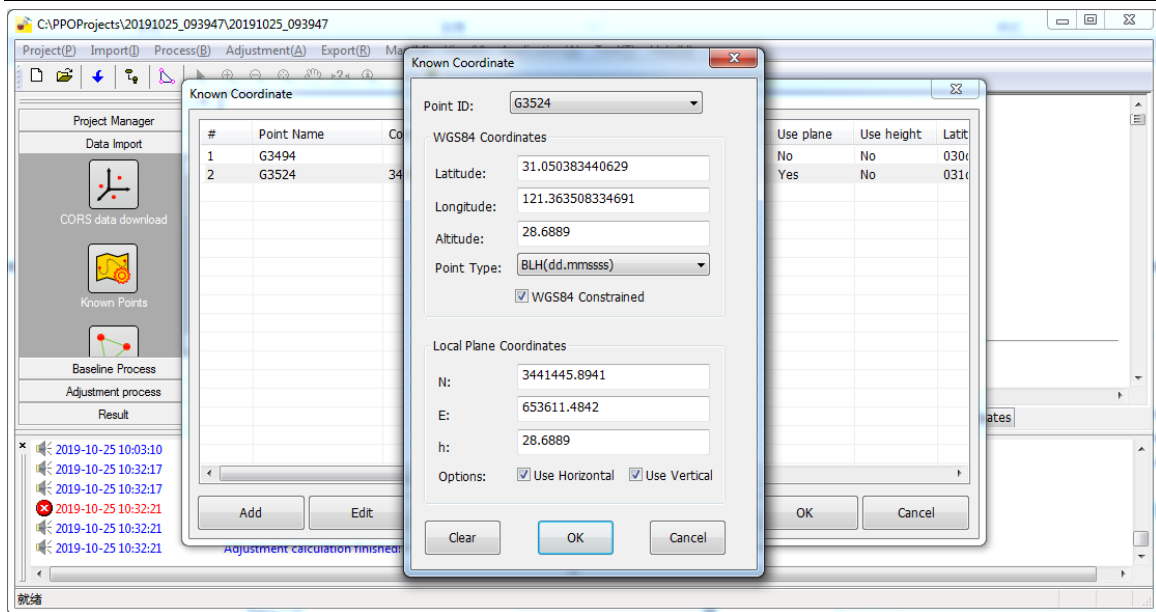

Figure 2-9
- Click [Import] - [Known Coordinates] as shown in Figure 2-9.